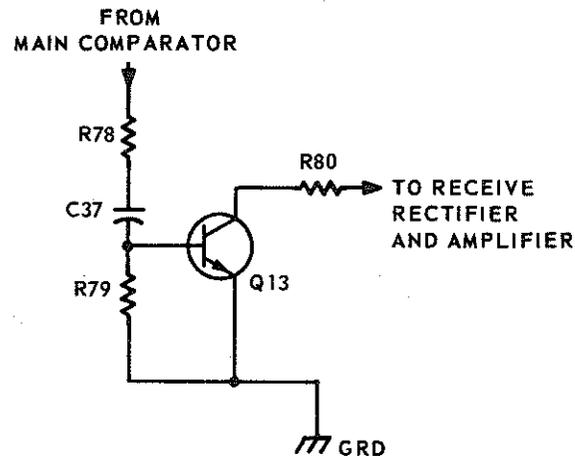

Fig. 13 — Low Level Booster Configuration
3.38 The low level booster circuit (Fig. 13) prevents chopping (i.e., the loss of initial speech syllables) when low level signals are being received from the telephone line by making the signals appear strong initially. If a line signal is just above the switching threshold for the main comparator, the main comparator output switches high and C31 will charge to the line signal voltage. However, with such a weak signal, the time required for C31 to discharge to a level below the threshold is less than the time interval between syllables or words in a normal conversation. To increase this initial discharge time for low level line signals without affecting high level performance a boost signal is applied to the (-) input of the receive rectifier when the main comparator switches to high output. The amplitude and duration of the boost signal is such that a weak receive signal